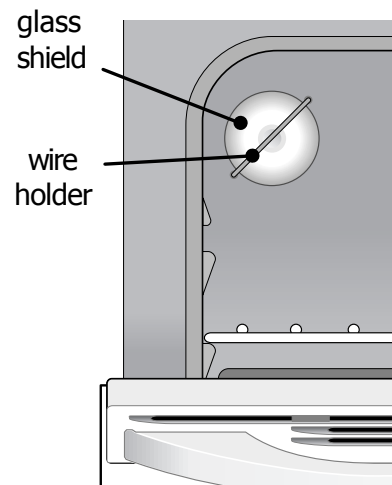

Fig.1
2. Open oven door for access to interior oven light. Once located, press wire holder to one side to release the glass shield (See Fig.1).
1. Open oven door completely (horizontal with floor - See Fig. 1).
3. With both door hinge arms in place, open the oven door (horizontal with floor - See Fig. 1).